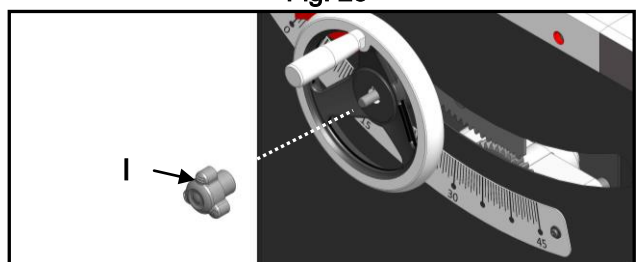

Fig. 29
2. Once the hand wheel has been removed, loosen the cap screw on the pointer mounting bracket with screw driver Fig. 29, and manually align the pointer with the zero on the bevel scale, then re-tighten the screw and re-attach the hand wheel.